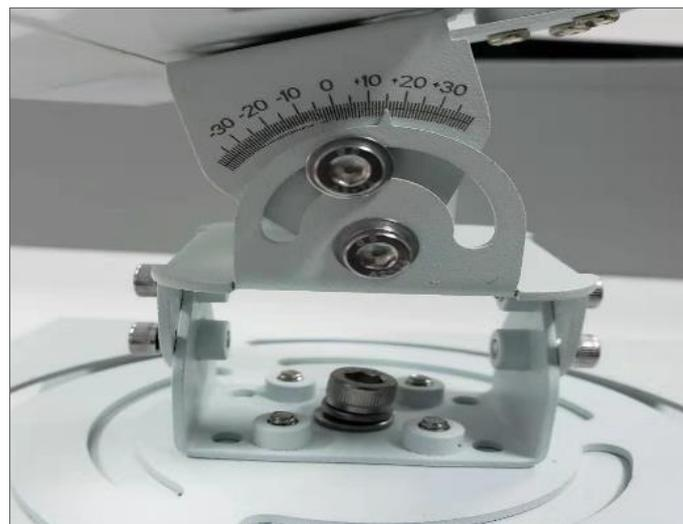

Figure 9 - Recording the angle of inclination
- 2) According to the actual mounting height, find the angle  $\alpha$  given in table 1, and the final pitch angle is ( $\gamma + \alpha$ ) on the side scale, with the tolerance of  $\pm 1^\circ$ . For example, if the radar is mounted at 7 meters height, the initial pitch angle is 0°, and the radar pitch angle ( $\alpha + \gamma$ ) is 15° (Figure 9). In the actual mounting process, the initial angle is generally not equal to 0 degrees.